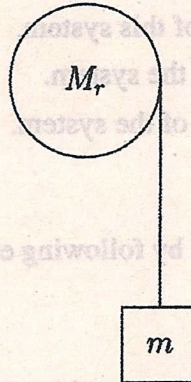

Figure 2: Lifting robot
- Q3. Figure 2 shows a Lifting Robot. A thread is attached to a pulley of radius $r = 10 \text{ cm}$, which is connected to a mass m at the other end. The wheel is driven by a motor M_r . The robot should rotate the motor M_r in the counter-clockwise direction to lift the mass m up.